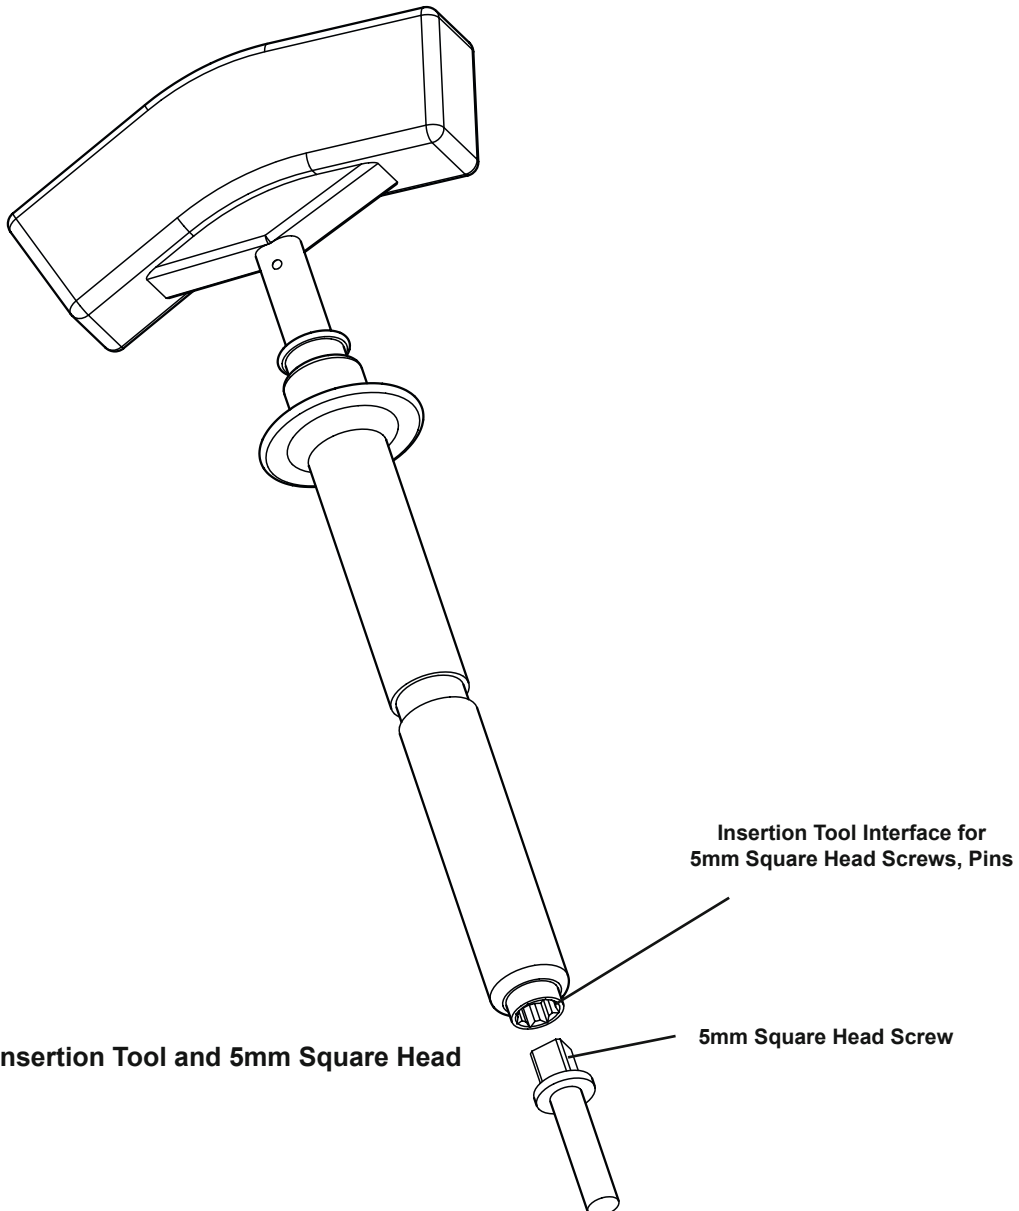

Figure 1: Insertion Tool and 5mm Square Head Screw
See figure 1.
- After proper alignment, mount the Pin to the Insertion Tool Interface. See figure 1.